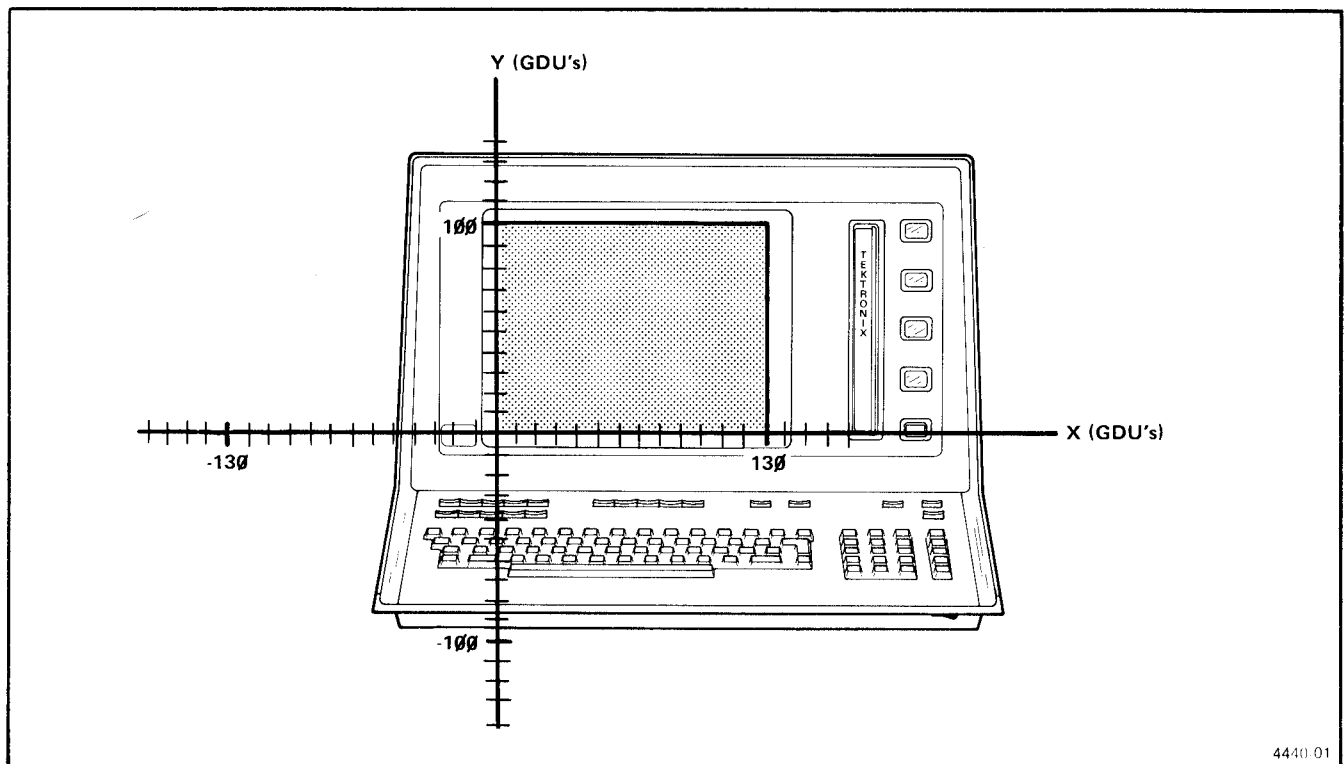

Figure 1-1. Cartesian coordinate System for Tektronix Graphic Devices.
Internally, the drawing surface of any graphic device represents the first quadrant in a cartesian coordinate system (Fig. 1-1).
The lower-left corner of the graphic device (display) represents the point of origin. The vertical axis (Y) runs along the left side of the display and is marked off in Graphic Display Units. The horizontal axis runs along the bottom of the display and is also marked off in Graphic Display Units. The physical size of the drawing surface covers an area 100 GDUs high by 130 GDUs wide. Points on the drawing surface are specified by their X and Y coordinates. In Figure 1-1, the point (65,50) denotes the center of the screen; the point (0,100) denotes the upper-left corner; the point (130,100) denotes the upper-right corner; the point (130,0) denotes the lower-right corner; and the point (0,0) is the lower-left corner (the point of origin). Specifying the drawing surface boundaries with the VIEWPORT romcall is based on this concept.